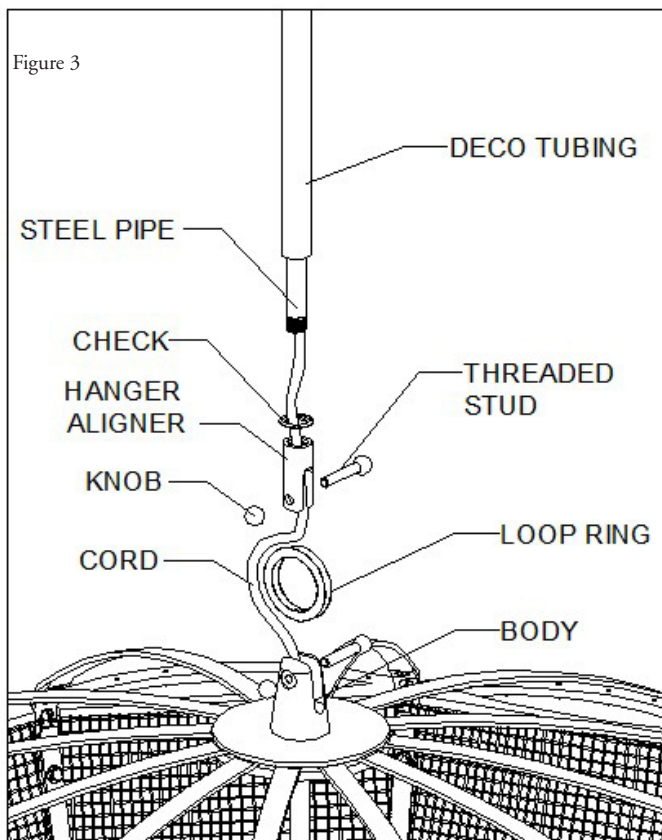

Figure 3
Step 7: Route the cord from the fixture assembly around the loop ring and up and through the center of the suspension stem. Use a soft cloth to cover the top of the fixture assembly to protect the finish from being damaged during the installation. (See Figure 3)